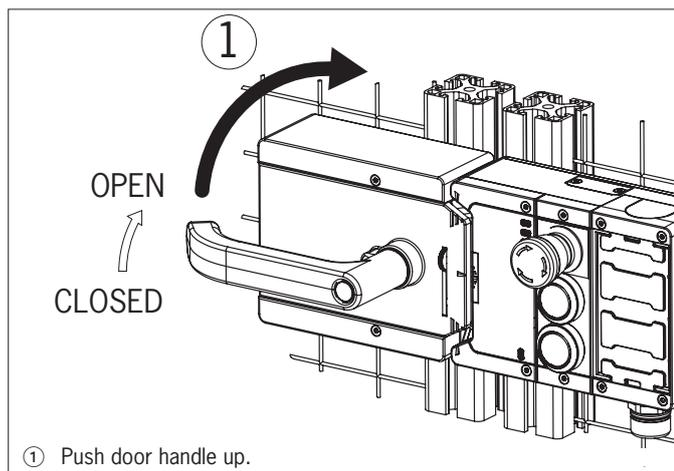

Fig. 12: Changing actuating direction, step ①
For mounting steps, see *Fig. 9* and *Fig. 12* to *Fig. 21*.
- The system is mounted the other way up for doors hinged on the left. In other words, the guard opens by pressing up the door handle (see Fig. 12). For this reason the actuating direction of the door handle must be changed (see Fig. 12 to Fig. 21).